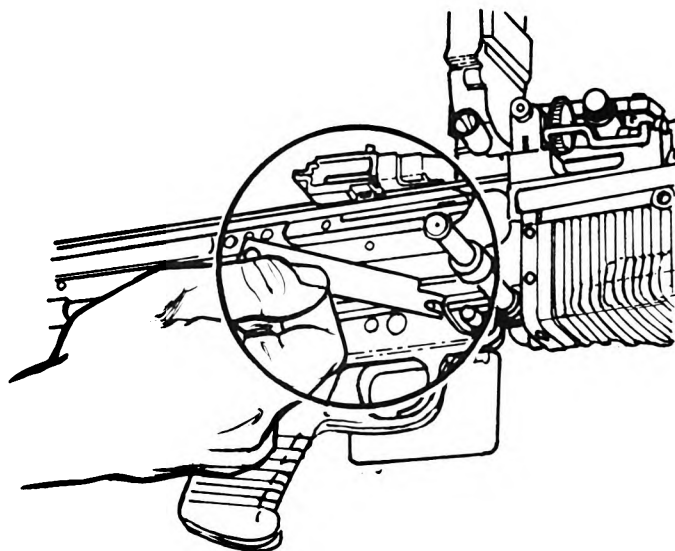

Figure 8. Removing the leaf spring.
(1) Press in on the rear of the leaf spring and rotate the rear end up to clear it from the sear retaining pin (figure 8). Pull to the rear to disengage the front notch from the trigger housing pin.
(2) Remove the trigger housing pin by pushing it to the left.